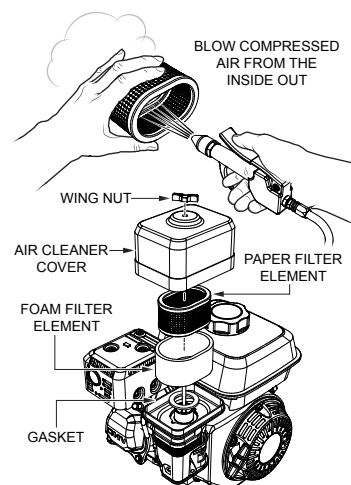

Figure 21. Engine Air Filter
The Honda GX160UT2SMXE engine is equipped with a replaceable, high-density paper air cleaner element. See (Figure 21) for air cleaner components.
4. Blow compressed air through the air cleaner cover as shown in (Figure 21). Clean inside of air filter cover with warm, soapy water or nonflammable solvent. Rinse and dry thoroughly.